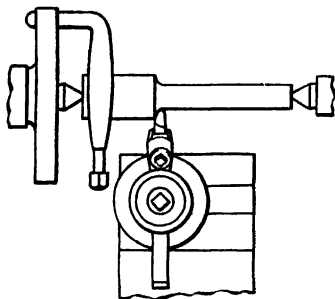

Fig. 14-6. Shows tool post on left-hand side of tool rest. In this position, there is less tendency to feed so far that the dog will strike the tool rest.
2. The tool post should be located at the *left-hand end* of the T slot in the tool rest (Fig. 14-6). If it is clamped in the middle or